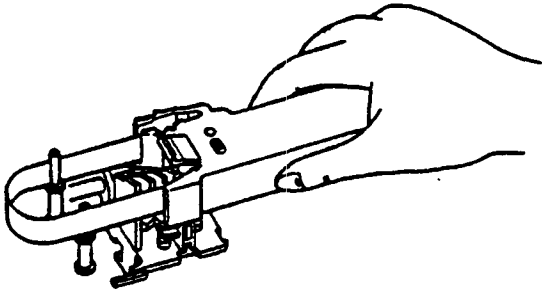

Figure 6.2
- (4) Pull out the ribbon slightly from the ribbon cassette and install the ribbon onto the two guide pins. At this time, the ribbon adjustment knob must face down. (Figure 6.2)